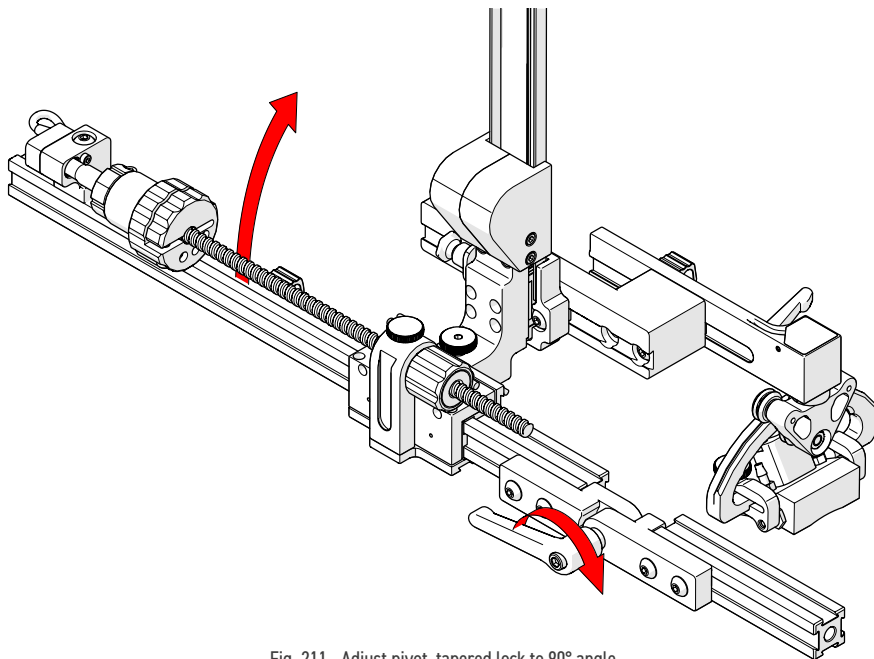

Fig. 211 - Adjust pivot, tapered lock to 90° angle
6. Release the pivot, tapered lock and position the 3-axis nozzle frame 90° (Fig. 211). Tighten the pivot tapered lock.